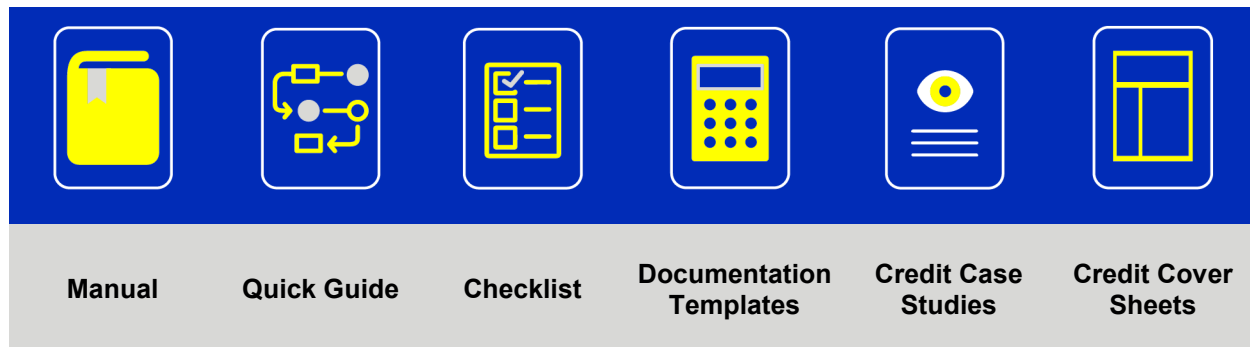

Figure 2.1 SIG 2.0 Components
For more information on the other SIG 2.0 resources as shown in Figure 2.1, including instructions and file locations for these materials, see Appendix A.
- **Verification Pathway:** All Track 2 *projects must follow ISI verification Pathway A* (shown in Figure 2.1), where documentation is submitted for review at or shortly after 95% design completion and verified post-construction. Verification Pathway B (submission only at construction completion) is not a recognized SIG evaluation track.